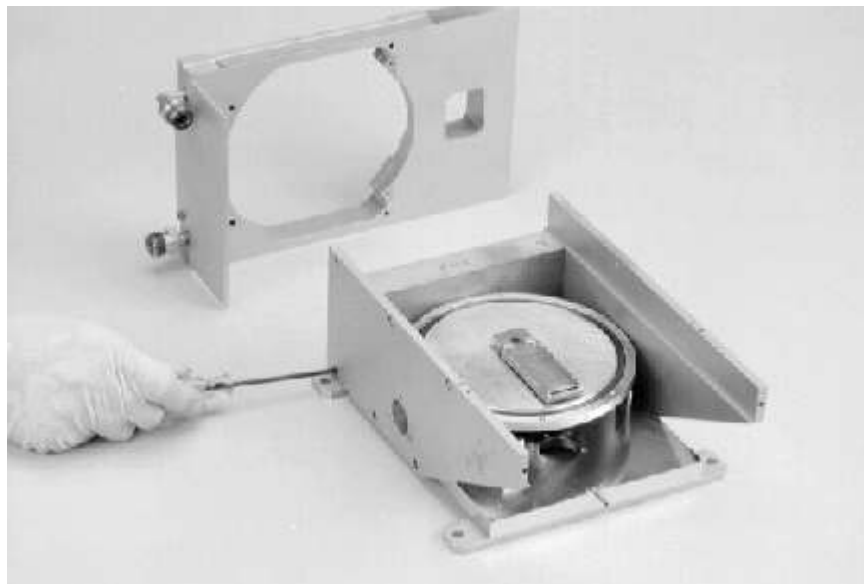

Figure 5-10. Removing the screws that secure the LH pole piece to the base plate
Step 21. Remove the screws that secure the pole pieces to the base plate (see Figure 5-10).